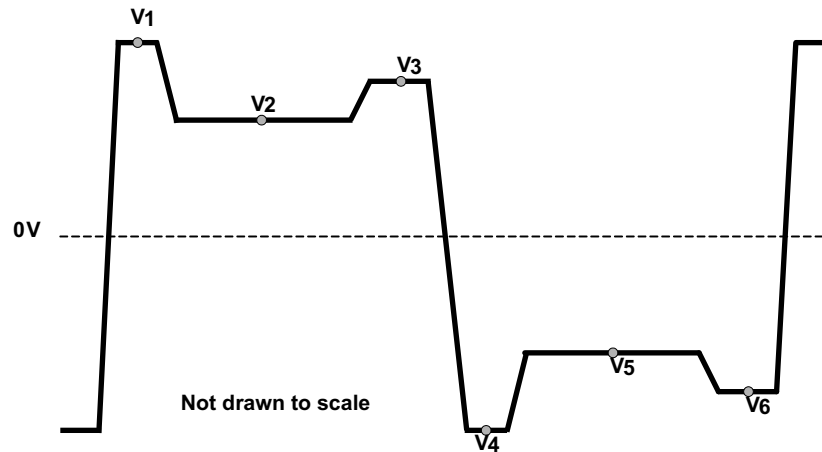
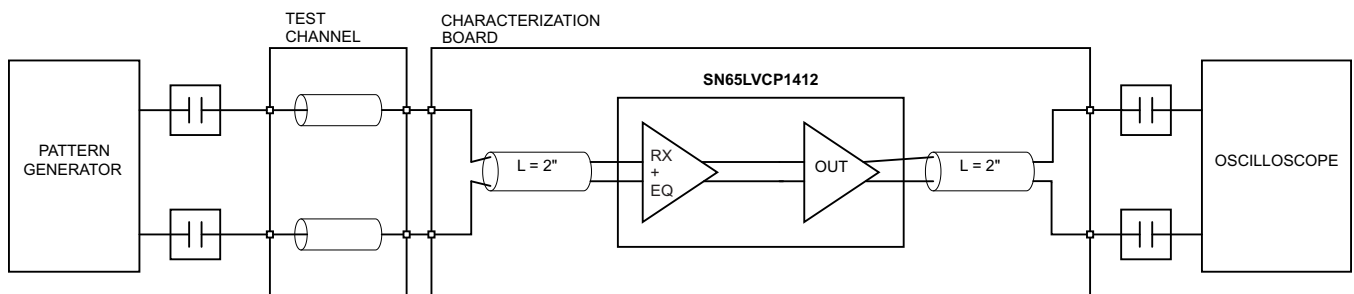
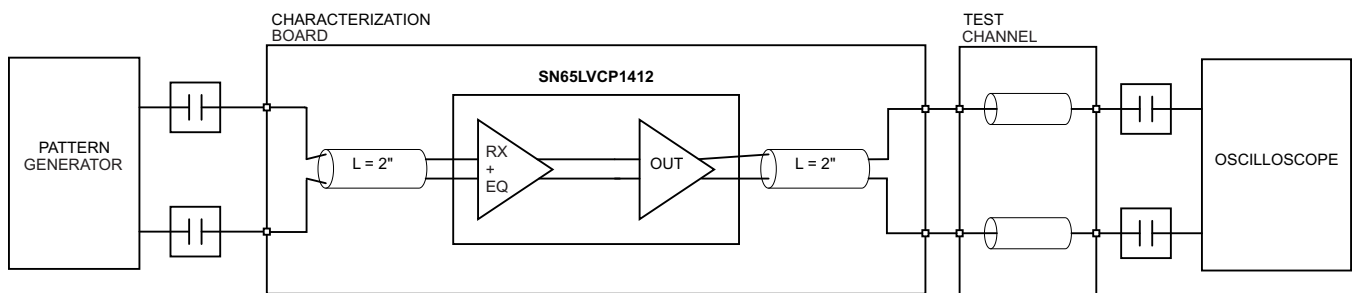

Figure 9. Vpre and Vpost (The test pattern is 1111111100000000 (8-1s, 8-0s))
Figure 10. Receive Side Performance Test Circuit
Figure 11. Transmit Side Performance Test Circuit
| V _{pre} | Output pre-cursor pre-emphasis | Input signal with 3.75 pre-cursor and measure it on the output signal, Refer Figure 9 . V _{pre} = 20log(V3/V2) | | 3.75 | | dB |
| V _{pst} | Output post-cursor pre-emphasis | Input signal with 12dB post-cursor and measure it on the output signal, Refer Figure 9 . V _{pst} = 20log(V1/V2) | | 12 | | dB |
| DJ1 | Residual deterministic jitter at 10.3125 Gbps | Transmit Side application Tx launch Amplitude = 0.6Vpp, EQ=0, ACGain and DCgain = Low and VOD = High, Trace Mode Test Channel -> 0". See Figure 11 | | 0.016 | | Ulp-p |
| DJ2 | Residual deterministic jitter at 10.3125 Gbps | Receive Side Application Tx launch Amplitude = 0.6Vpp, EQ=7, ACGain and VOD = High and DCgain = High, Trace Mode Test Channel -> 12" (9dB loss at 5GHz) See Figure 10 | | 0.11 | | Ulp-p |
| DJ3 | Residual Deterministic Jitter at 14.2 Gbps | Transmit Side Application Tx launch Amplitude = 0.6Vpp, EQ=0, ACGain and DCgain = Low and VOD = High, Trace Mode Test Channel -> 0". See Figure 11 | | 0.041 | | Ulp-p |
| DJ4 | Residual Deterministic Jitter at 14.2 Gbps | Receive Side Application Tx launch Amplitude = 0.6Vpp, EQ=7, ACGain and VOD = High and DCgain = High, Trace Mode Test Channel -> 8" (9dB loss at 7GHz) See Figure 10 | | 0.13 | | Ulp-p |
(2) Rise and Fall measurements include board and channel effects of the test environment, refer to Figure 10 and Figure 11
(3) t_{SK(O)} is the magnitude of the time difference between the channels.
(4) t_{SK(PP)} is the magnitude of the difference in propagation delay times between any specified terminals of two devices when both devices operate with the same supply voltages, at the same temperature, and have identical packages and test circuits.
(5) All noise sources added.
Regarding timing, the SN65LVCP1412 is I²C compatible. The typical timing is shown in Figure 9 and a complete data transfer is shown in Figure 10. Parameters for Figure 9 are defined in Table 3.